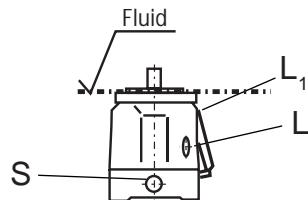

Fig. 1
- If the minimum fluid level is equal to or above the pump mounting face leave ports "L", "L₁" and "S" open (see Fig. 1).